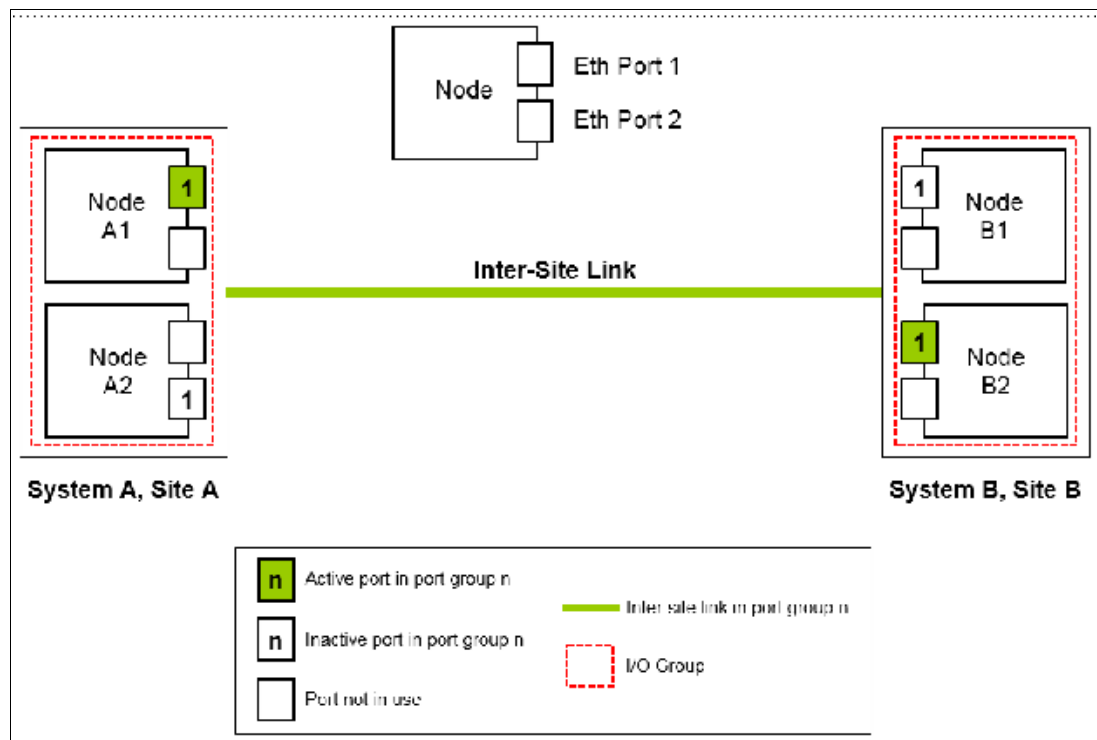

Figure 10-99 One Remote Copy group on each system and nodes with failover ports configured
- Two 2-node systems in IP partnership over a single inter-site link (with failover ports configured), as shown in Figure 10-99 (configuration 2).
As shown in Figure 10-99, two systems are available: